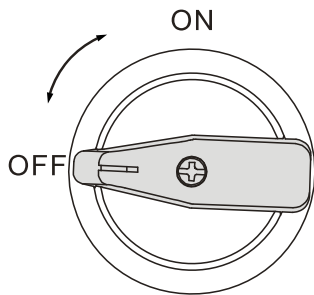

Figure3-41 Diagram of DC switch OFF status
Step 1 Confirm that all DC switches on the inverter (shown as ② in Figure3-41) are OFF.